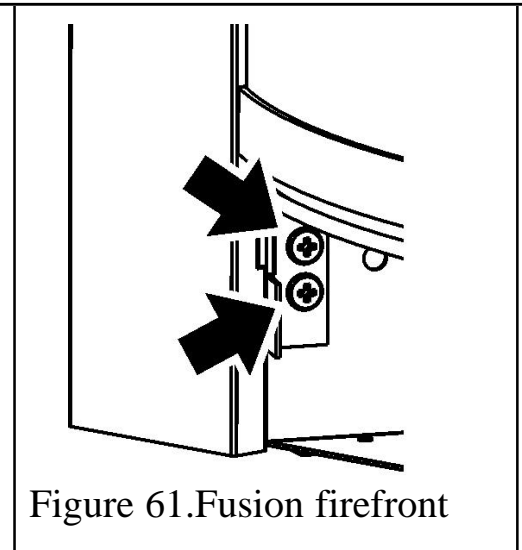

Figure 61. Fusion firefront
1. The Fusion firefront is secured in place using four screws. Locate the firefront brackets with the holes in the bottom of the firebox and secure each both sides with the two 'B' screws supplied (See figure 61).